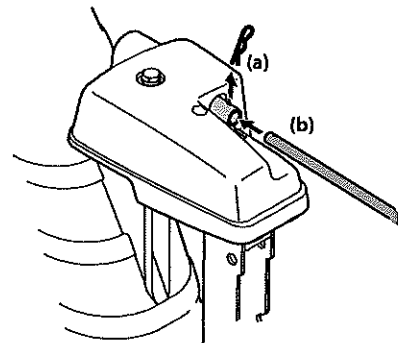

Figure 2-11
5. Remove hairpin clip (a) from rear of chute control head. See Figure 2-11.
6. Insert chute control rod (b) into rear of chute control head. See Figure 2-11. Secure chute control rod to chute control assembly with hairpin clip (a) removed in Step 5.